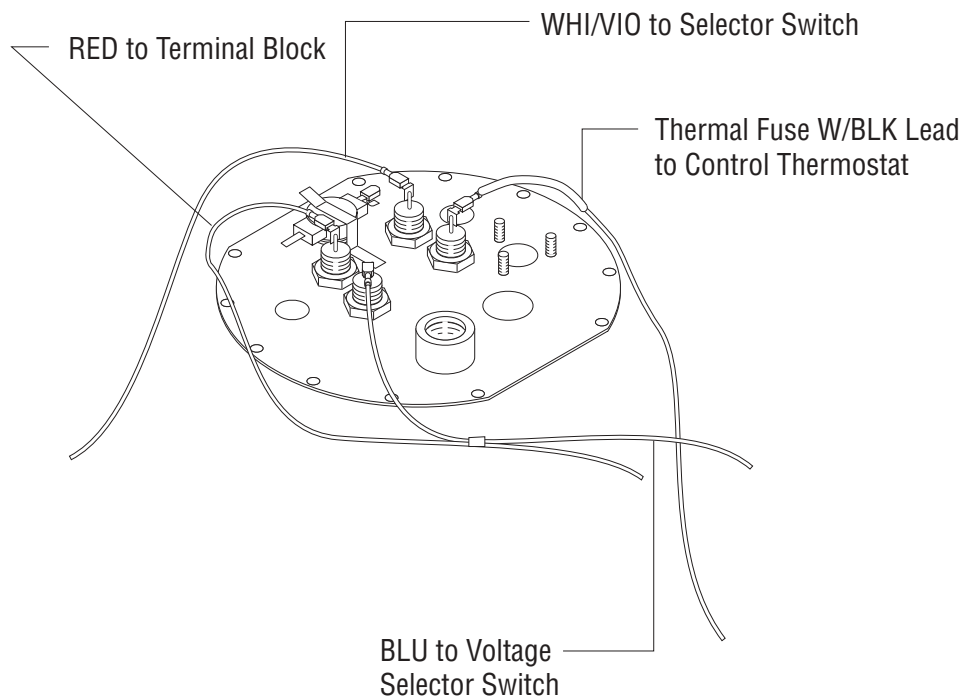

FIG. 13 TANK HEATER TERMINALS
17. Refer to Fig.13 when reconnecting the tank heater wires.